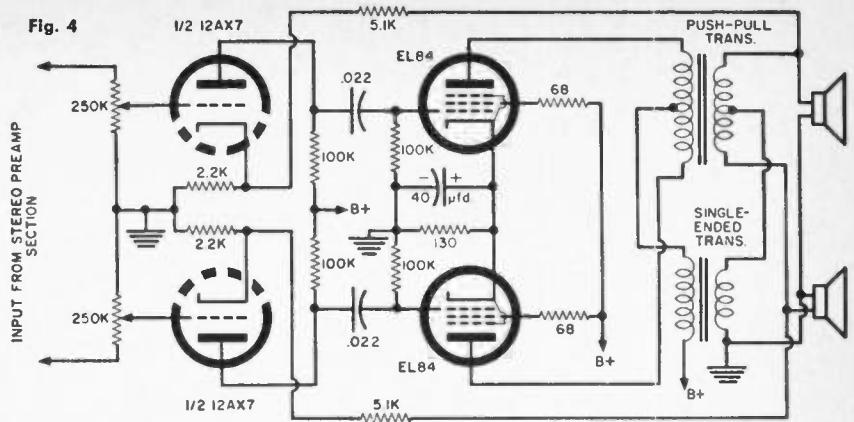

Fig. 4. Schematic diagram of driver and output stages, showing use of feedback.
Feedback is taken from the resultant output to the voice coils, back to the cathodes of the driver stage (Fig. 4). This can reduce distortion in either channel (left or right), correct frequency response, and reduce any error in the double-matrixing action of the output transformers.
2. Will not the loudspeakers, connected as at Fig. 4, reproduce the stereo out-of-phase?
But, if this were the only means, and the time constant is made long enough to represent a good bass response (which is needed for the push-pull mode), quite a bit of distortion can occur *before* the bias gets readjusted. Fortunately, however, with the circuit shown in Fig. 4, another effect can take charge meanwhile.